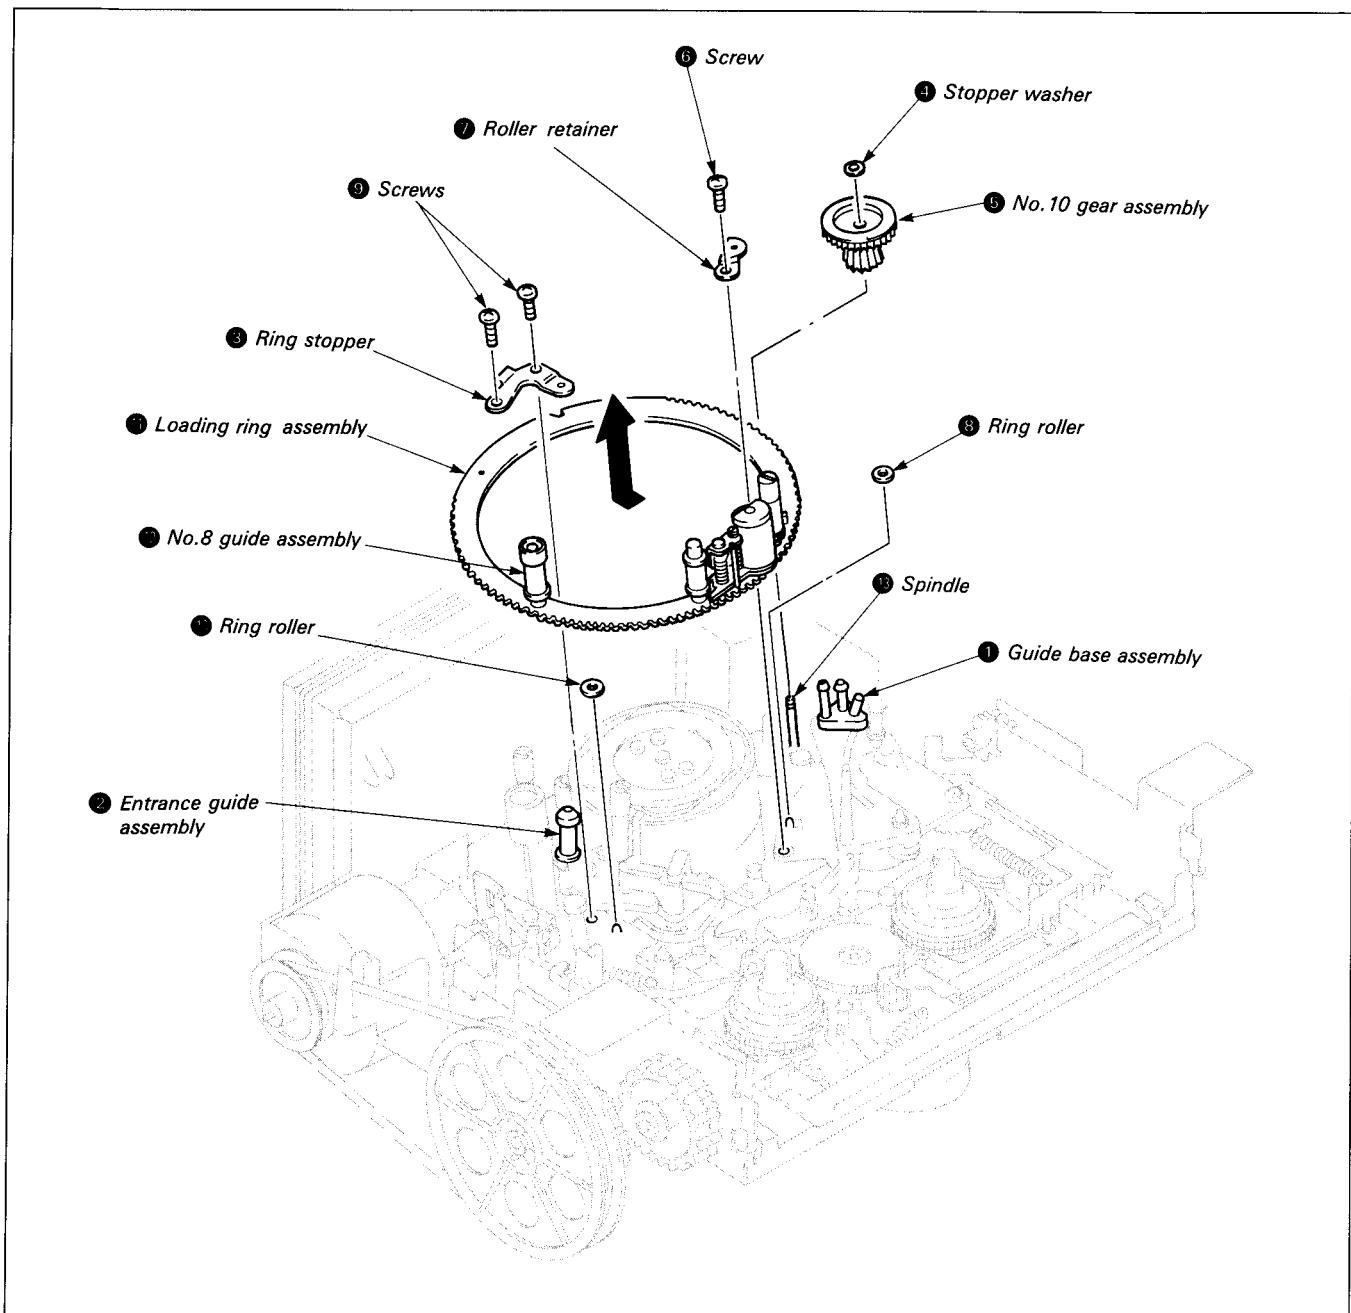
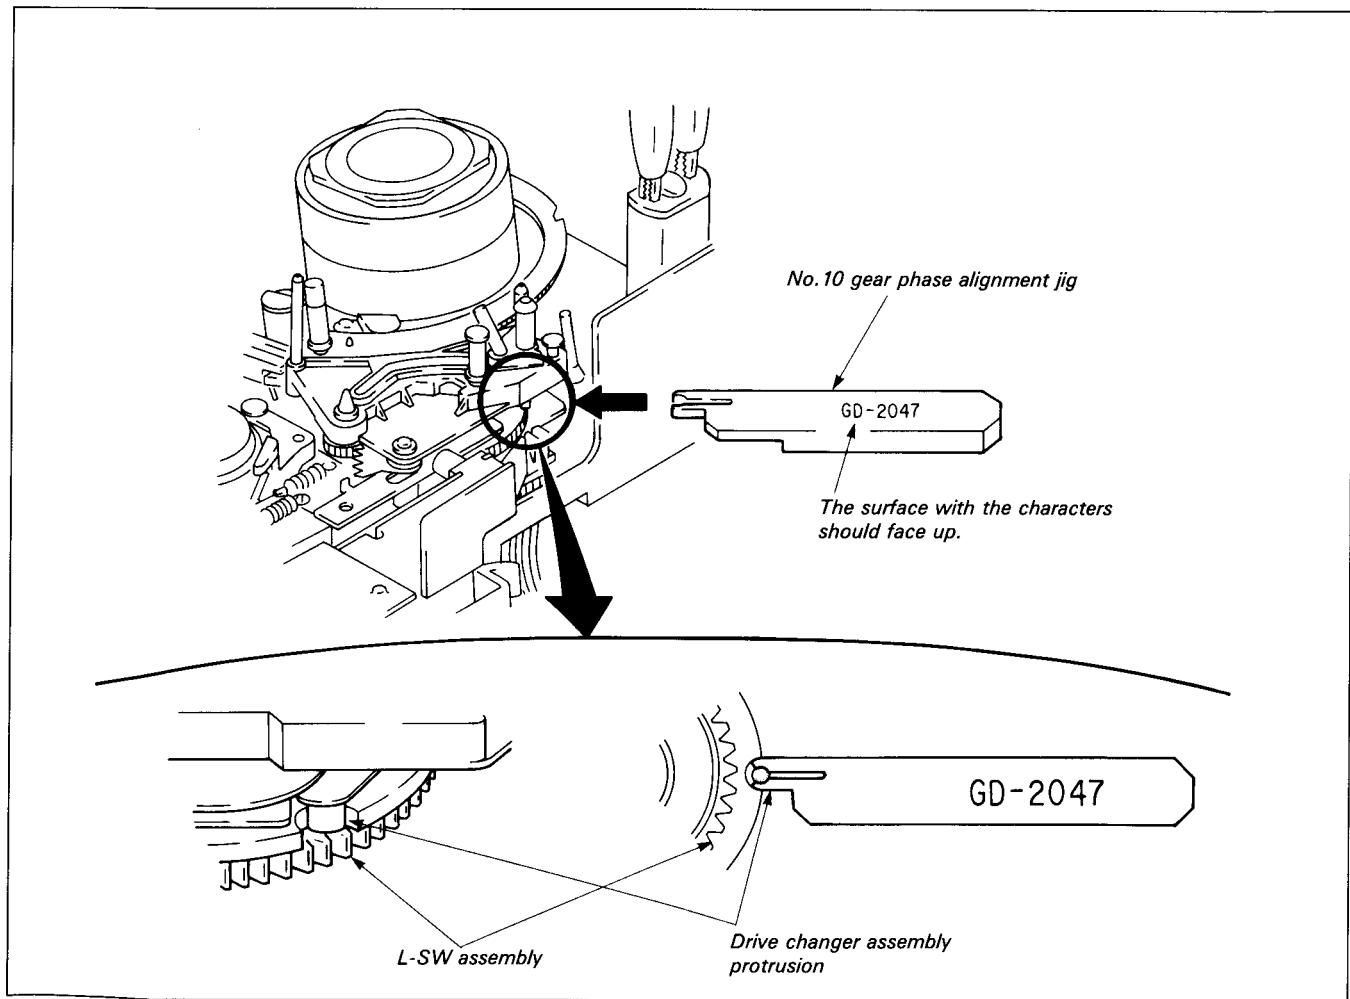
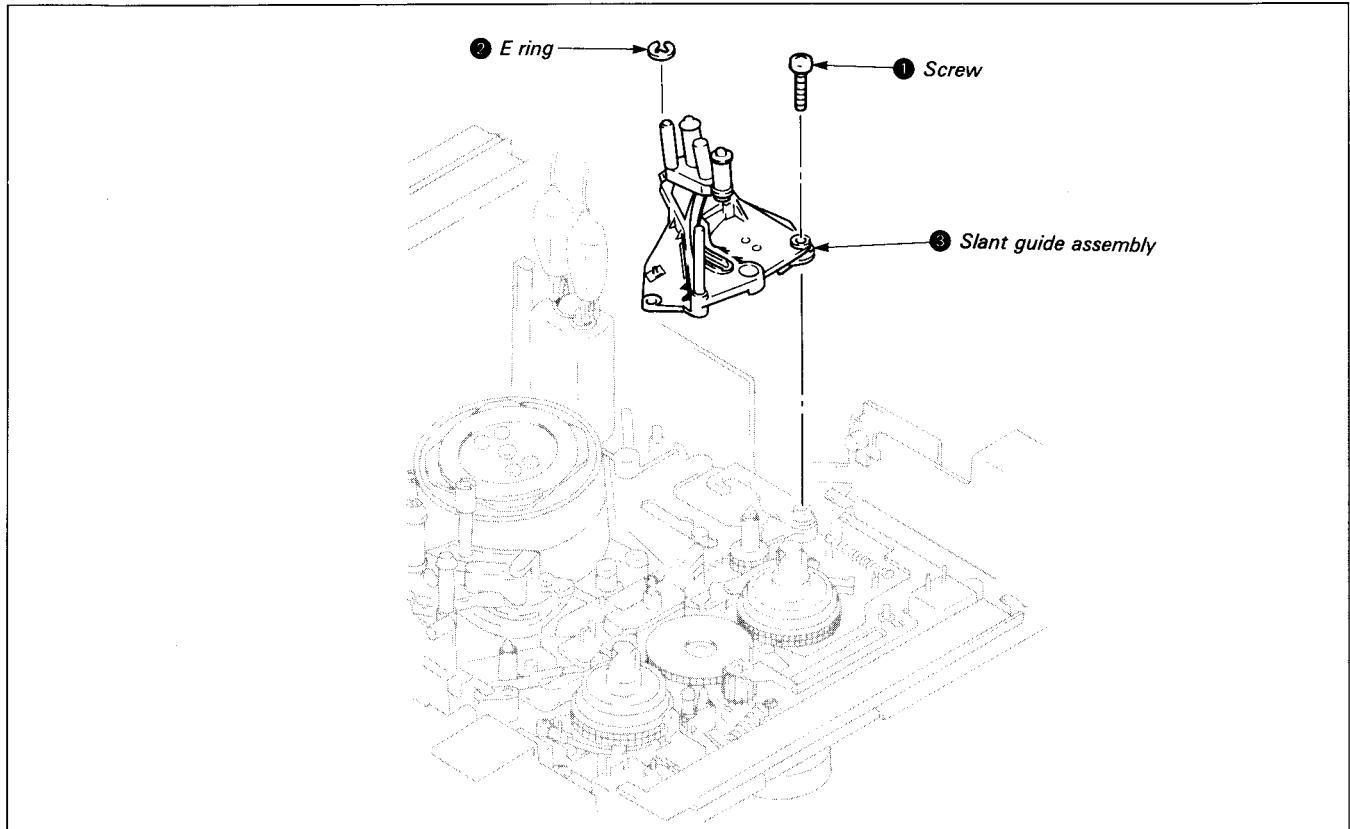

Fig. 7-12.
Fig. 7-13.
Fig. 7-26.
7-3-7. Loading Ring Assembly (See Fig. 7-12, 13.)
- 3) Operate the mode selector, and move the guide base assembly ① until just before lock, and the entrance guide assembly ② until just before lock where the ring stopper ③ screw is visible. (Do not move loading ring assembly ⑪.)
- 4) Remove the stopper washer ④ and remove No. 10 gear assembly ⑤.
- 5) Remove screw ⑥ and the roller retainer ⑦ and ring roller ⑧.
- 6) Remove the two screws ⑨ and the ring stopper ⑩ and ring roller ⑪.
- 7) Remove the loading ring assembly ⑫ as shown by arrow. (See Fig. 7-12.)
- 1) Mount the loading ring assembly ⑪ so that it is in unthreaded state (pinch roller arm assembly is on the front panel side). (Check that it is in the state in step 3) under Removal.)
- 2) Mount the ring roller ⑩ and ring stopper ③ and tighten with the two screws ⑨. (No. 8 guide assembly ⑫ should be closer to the front panel than the ring stopper ③.)
- 3) Mount the ring roller ⑧ and roller retainer ⑦ and tighten with screw ⑥. (Check that the loading ring assembly matches the three ring spacers.)
- 4) Place a half drop of oil on the spindle ⑪. (See Fig. 7-12.)
- 5) Check that the protrusions on the drive changer assembly are in the indentations of the L-SW assembly and insert the No. 10 gear phase jig (Ref. No. J-9). (See Fig. 7-13.)
- 6) Mount No. 10 gear assembly ⑤ and stopper washer ④ while pushing the No. 8 guide assembly ⑫ against the ring stopper ③.
- 8) Set to **LOADING TOP** mode. (See Fig. 7-12.)
- 1) Remove the loading ring assembly as described in 7-3-7., 1. Removal. (See Fig. 7-12.)
- 6) Mount the loading ring assembly according to 7-3-7., 2. Mounting. (See Fig. 7-12, 7-13)
7-3-9. Slant Guide Assembly (See Fig. 7-26~28.)
- 1) Remove the loading ring assembly according to 7-3-7., 1. Removal. (See Fig. 7-12.)
- 2) Remove screw ① and E ring ②.
- 3) Remove the slant guide assembly ③. (See Fig. 7-26.)
- 3) Mount the E ring ② and tighten screw ①. (See Fig. 7-26.)
- 5) Mount the loading ring assembly according to 7-3-7., 2. Mounting (See Fig. 7-12, 7-13.)